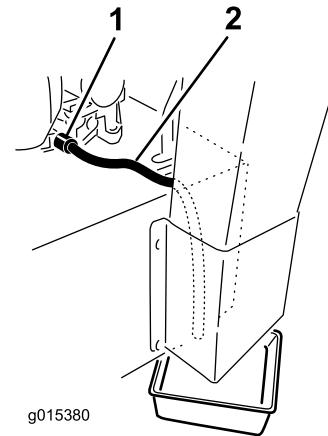

Figure 36
**Note:** Rotate the oil drain valve to allow oil to drain (Figure 36).